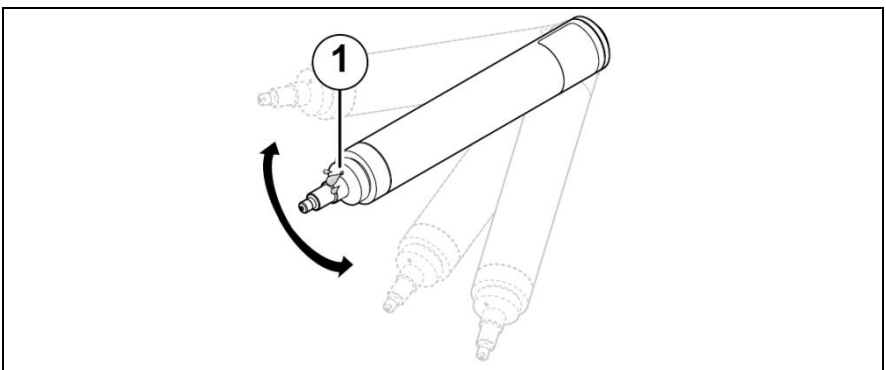

Fig. 10: Shaking the sensor body dry
- ▶ Shake the sensor body dry several times (see Fig. 10, p. 25).